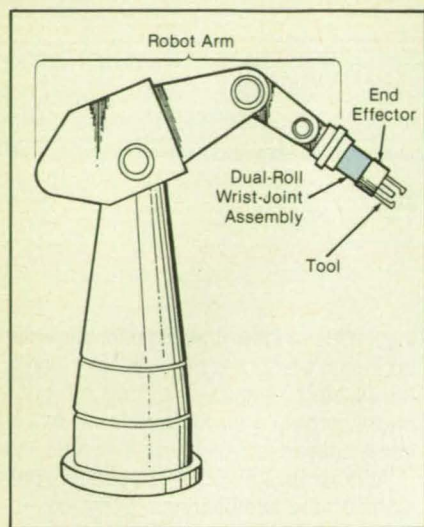

Figure 1. The Dual-Roll Wrist-Joint Assembly is mounted on the end of a robot arm.
A compact robotic wrist-joint assembly (see Figure 1) includes two motor subas-
2. An inner output flange concentric with the outer output flange is capable of unlimited rotation relative to the outer flange. This motion is used to drive a rotary tool (e.g., a milling cutter or a nut runner like the one shown in Figure 1) in conjunction with the operation of the end effector.